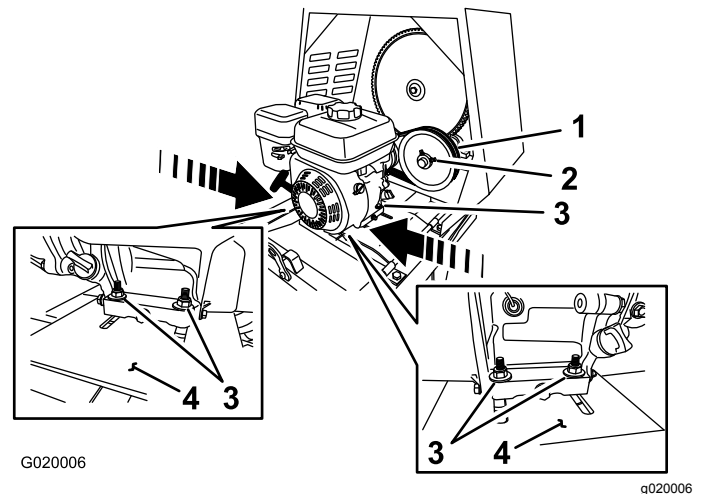

Figure 63
- B. Loosen the nuts and bolts that secure the engine to the engine deck (Figure 63).
- **Increase the air gap**—move the engine **away** from the idler pulley (Figure 63).
- **Decrease the air gap**—move the engine **toward** the idler pulley (Figure 63).